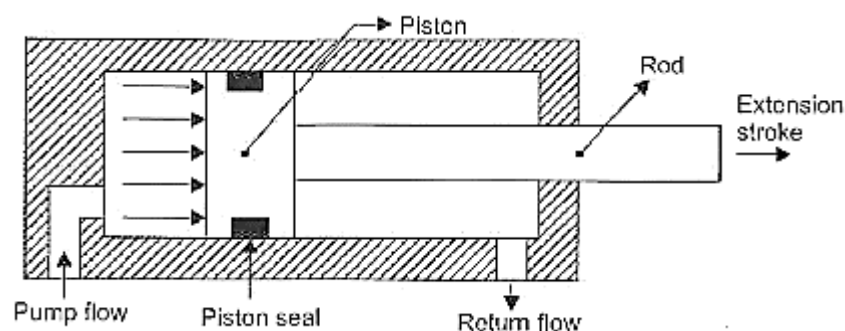

Fig.5.6 Double acting cylinder
- ▶ A schematic diagram of a double acting cylinder is shown in Fig.5.6. Double acting cylinders are equipped with two working ports, one on the piston side and the other on the rod side. For forward motion of the cylinder compressed air is admitted on the piston side, and the rod side is connected to the exhaust.